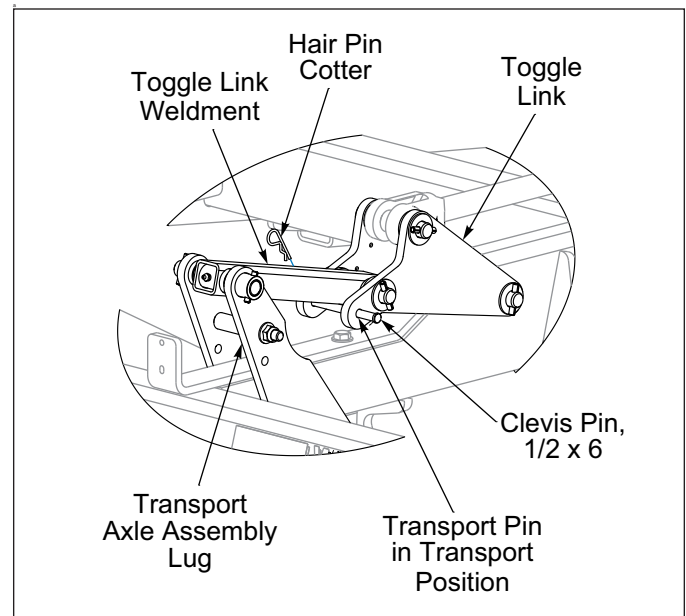

Figure 3-6: Transport Pin in Transport Position
4. Fully extend the hydraulic lift cylinders, and retract the wing fold cylinders. Secure transport lock with hairpin cotters. **See Figure 3-6 and 3-7.**
2. Remove Hair Pin Cotter and 1/2 x 6 Clevis Pin that is used as the Transport Lock from the Toggle Links. **See Figure 3-6.**
3. Install the Clevis Pin in the Toggle Links. Secure with Hair Pin Cotter. **See Figure 3-6.**